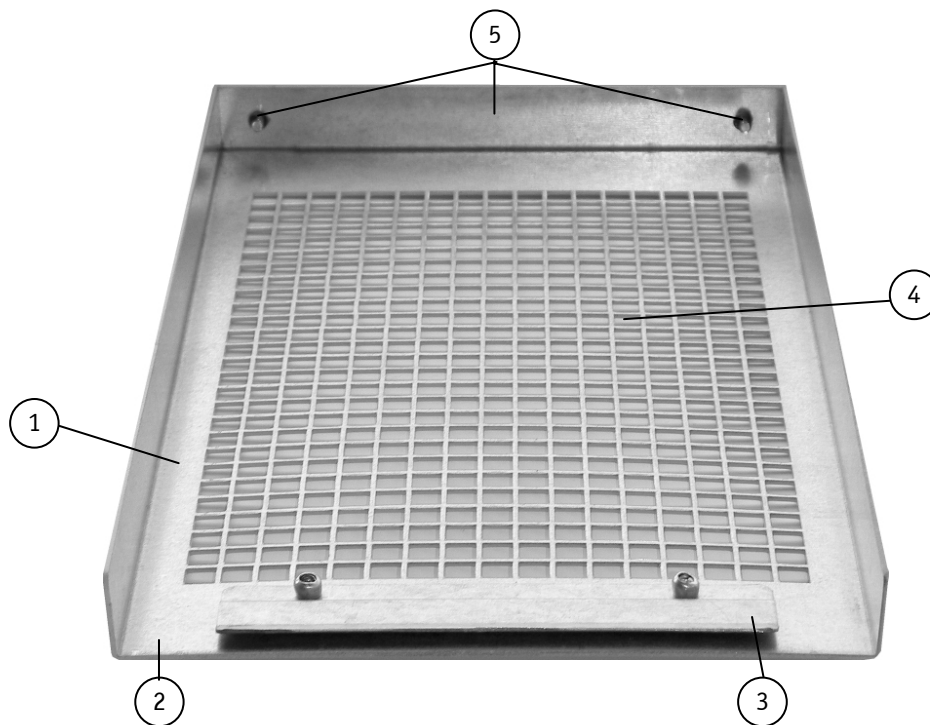

Fig. 29: Inside of the top cover with fixing brackets
The cover will be fixed to the chassis using the fixing bracket at the rear side of the cover (Fig. 29, pos.3) and the fixing bracket with captive knurled screws at the front side of the cover (Fig. 29, pos.5).
- ❑ At the rear: the fixing bracket (Fig. 29, pos.3) is inserted properly into the corresponding cover retaining bracket of the chassis (Fig. 27 pos. 13).
- ❑ At the front side: the fixing bracket with knurled screws of the cover (Fig. 29, pos.5), is matching properly over the cover retaining bracket on the front side (Fig. 27 pos. 1).
The fixing bracket with knurled screws (Fig. 29, pos.5) secures the top cover on the front side (Fig. 10, pos. 3).